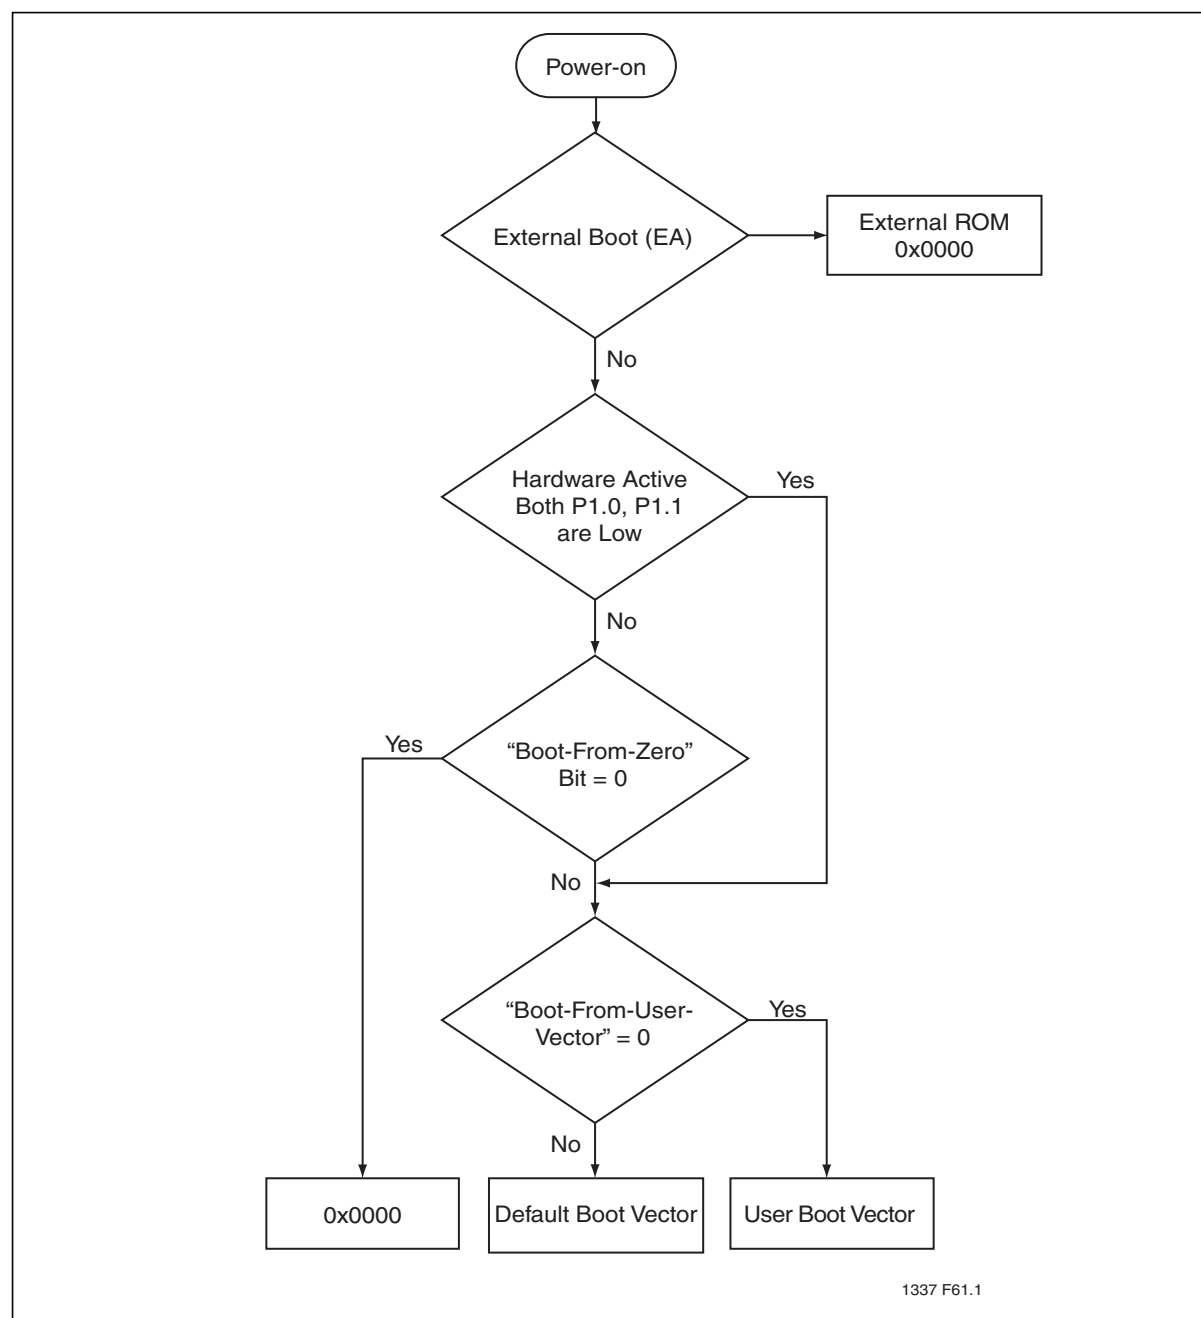

Figure 15: Boot Sequence Flowchart
If the “Boot-From-Zero” bit is ‘1’ and the “Boot-From-User-Vector” bit is ‘0’, the USER Boot Vector is applicable. This is used as the high byte of the program counter (PC) starting address while the lower byte of PC is 00H. See Figure 15.